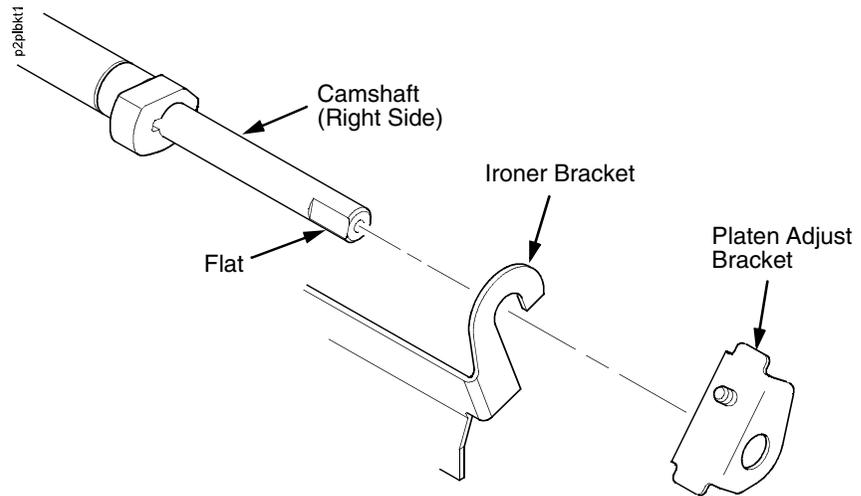

Figure 24. Installing the Platen Adjust Bracket
3. Make sure the two wear saddles are set flush into the corners of the mechanism base platen seat. (See page 258, item 19.)
5. Install one platen adjust bracket onto one end of the camshaft, with the screw at the top of the bracket. (See Figure 24.)
7. Insert the left end of the camshaft through the left adjust bracket and through the opening in the left side plate. Rotate the right end of the camshaft into the opening in the right side plate and position the adjustment brackets as shown in Figure 24.
8. Slide the right ribbon guide assembly into the side plate and install the two 7/32 inch screws and washers. (See page 262, items 11, 13, and 14.)
10. Install the black metal washer onto the left side of the camshaft. (See page 258, item 24.)
11. Apply bearing lubricant to the nylon bearings in the two spring links, slide the spring links onto the two platen shafts, and connect the springs to the spring hooks in the side plates. (See page 258, items 15, 16, and 17.)
13. Install the paper ironer bracket. (See page 258, item 5.)